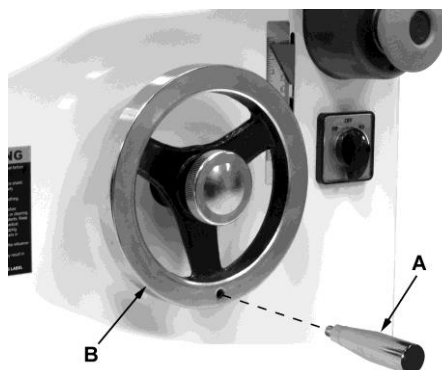

Figure 3
Insert the *handle* (A, Fig. 3) into the *handwheel* (B) and secure with a 14 mm wrench.